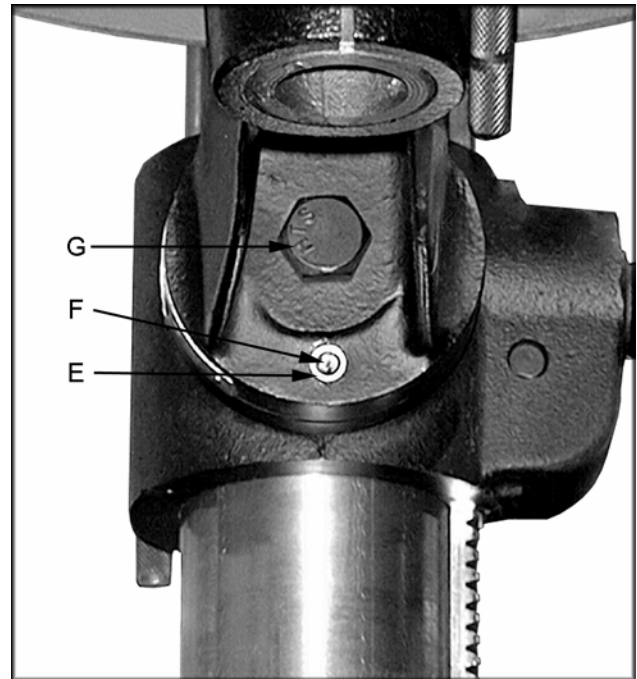

Fig. 10
1. Turn nut (E, Fig. 10) clockwise to pull out the alignment pin (F, Fig. 10).
2. Loosen hex cap bolt (G, Fig. 10), and tilt the table to the desired angle.
3. Tighten the hex cap bolt (G, Fig. 10).